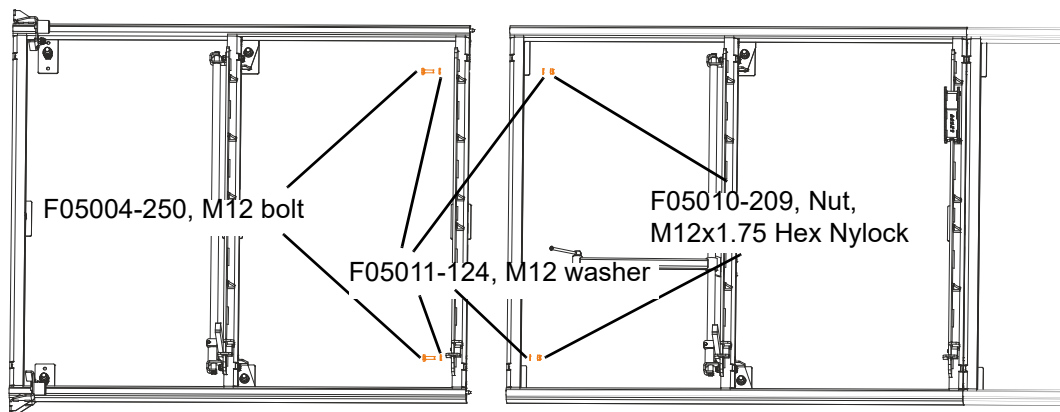

FIG. 2-8
9. Draw the bed sections together and secure with fasteners from the hardware bag. See Fig. 2-8.
See Figure 2-8.